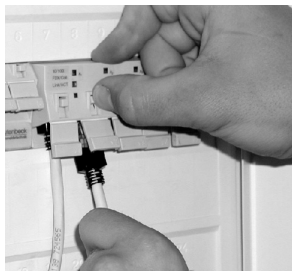

Figure 3
- 2 For the disconnection of the patch cables from the terminals press the release knob above of the respective port at first and then extract the plug from the outlet (s. fig. 3).